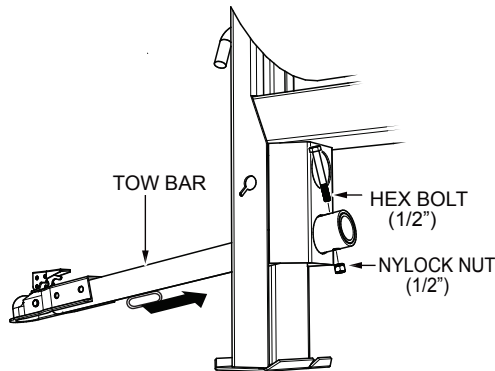
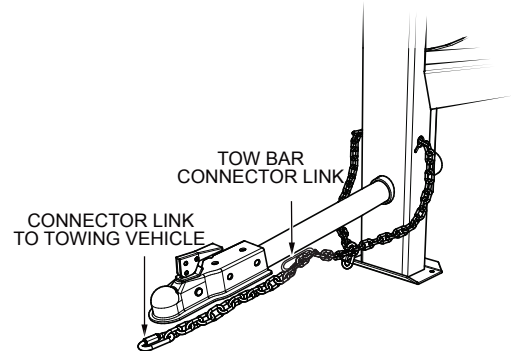

Figure 3. Insert Tow Bar
Figure 6. Extend Safety Chain
3. After the tow bar has been connected to the mixer (Figure 3–Figure 6), securely attach the mixer's coupler to the hitch ball on the towing vehicle. Make sure the lock lever is in the **DOWN** (locked) position and the safety pin is inserted.
2. After the tow bar has been connected to the mixer (Figure 3–Figure 6), secure either type of tow bar to the towing vehicle, following state and county towing regulations.
1. Insert the tow bar (Figure 3) through the round opening at the bottom of the mixer stand.
2. Align the hole on the tow bar with the hole on the mixer frame and insert the 1/2-inch bolt (Figure 3) through the tow bar and frame. Secure the tow bar to the frame with the 1/2-inch nyloc nut. Tighten to 40 lbf-ft.
5. Extend the safety chain along the length of the tow bar and loop it through the tow bar's connector link (Figure 6). Remove any excess chain slack.
6. Connect the free end (connector link) of the safety chain to the towing vehicle (Figure 6). It is critical that the length of the chain be properly adjusted to prevent the draw bar and the front of the mixer stand from dropping to the ground (contact) in the event of the draw bar becoming disconnected from the towing vehicle.